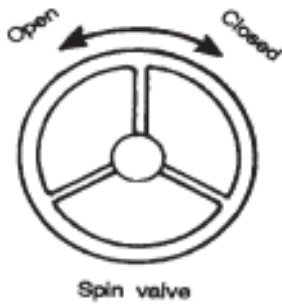

Figure 1
2. Open the primary air control (spin valve) by turning it fully anticlockwise (see Figure 1).